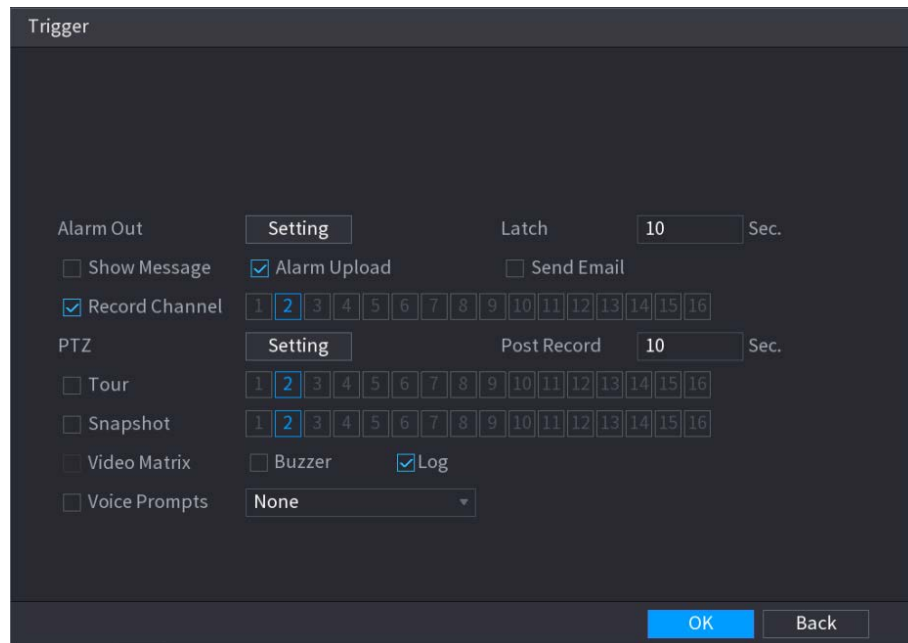

Figure 5-152
- Click  to set the alarm linkage. See Figure 5-152. For details, see Table 5-49.